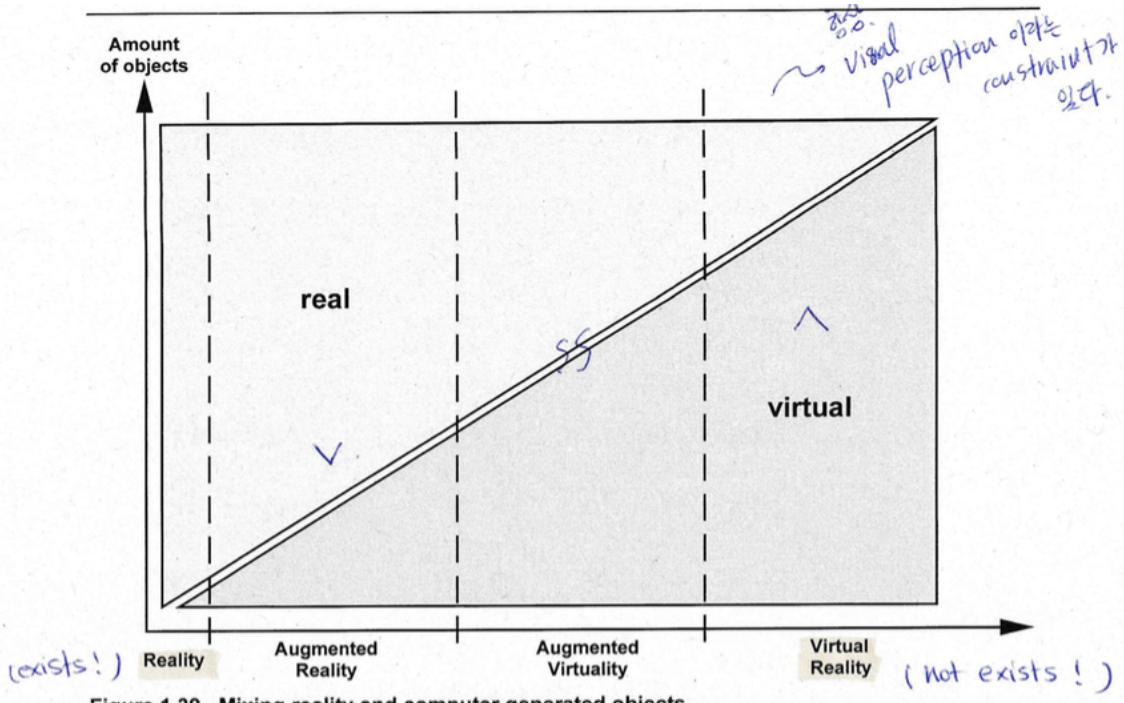

Figure 1.39 Mixing reality and computer generated objects
- **Note:** Figure 1.39, page 1-25